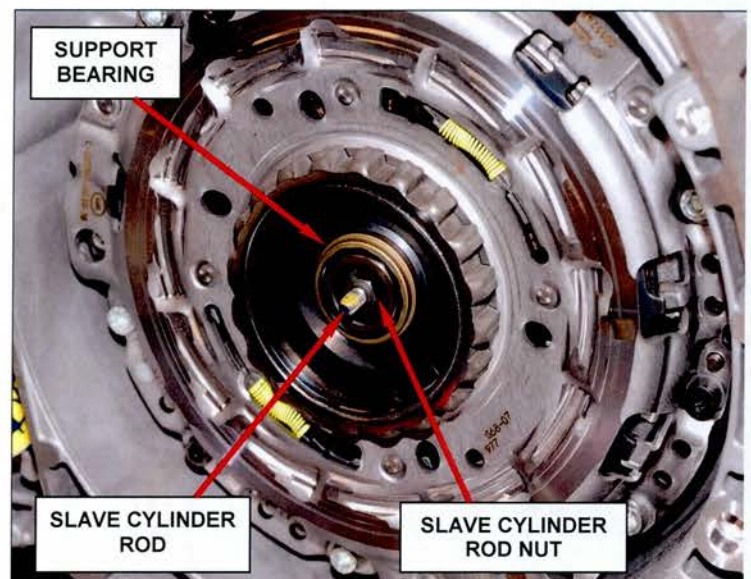

Figure 13 – Slave Cylinder Rod Nut and Support Bearing
42. Remove and save the slave cylinder rod nut and support bearing assembly (Figure 13).